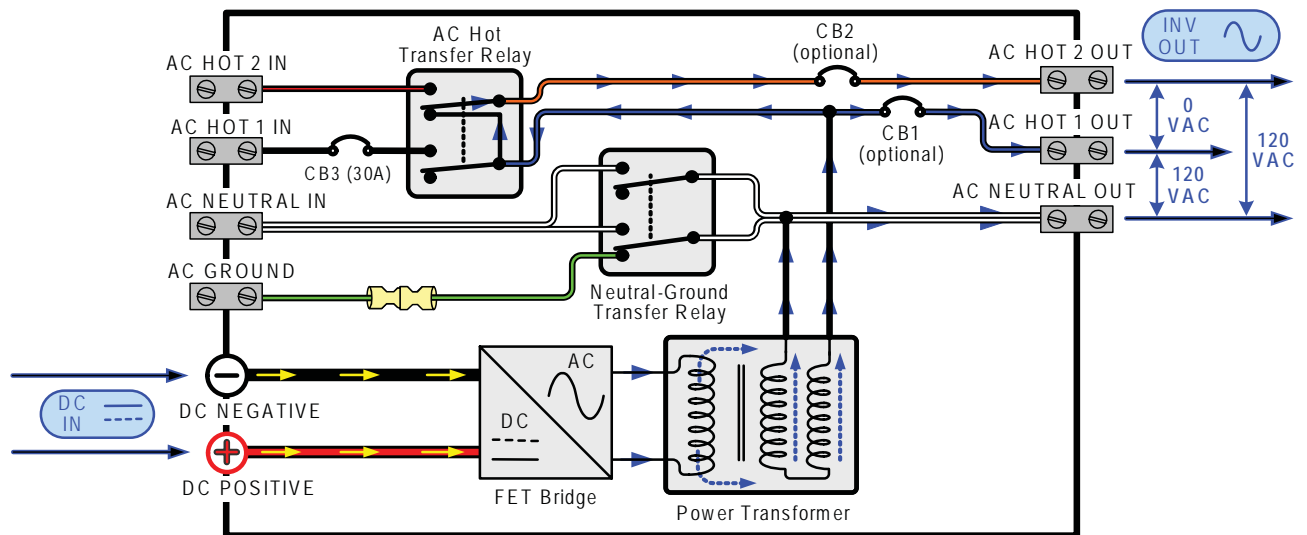

Figure 3-1, Power Flow - Inverter Mode
**Inverting** - When a load greater than 5 watts is connected to the inverter output, the MS Series "inverts" the DC power from the battery and supplies 120 VAC power to your sub-panel. The inverter's green LED flashes once every 2 seconds (medium flash) to indicate it is inverting. The amount of time the inverter can be inverting and provide power is directly related to the amount of AC loads that are connected and the capacity of the battery bank. Refer to figure 3-1 to see the flow of power from the DC input to the AC output while in the Inverter Mode.